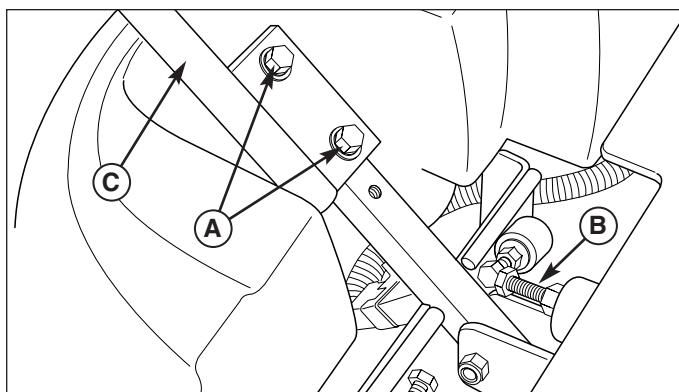

Figure 20. Control Lever Adjustment
To Adjust the Handle Alignment: Loosen the mount bolts (A, Figure 20) and pivot the lever(s) (C) to align with each other.
To Adjust the Handle Placement: Loosen the jam nuts and adjust the placement bolt (B, Figure 20) in or out to properly adjust the lever end spacing.